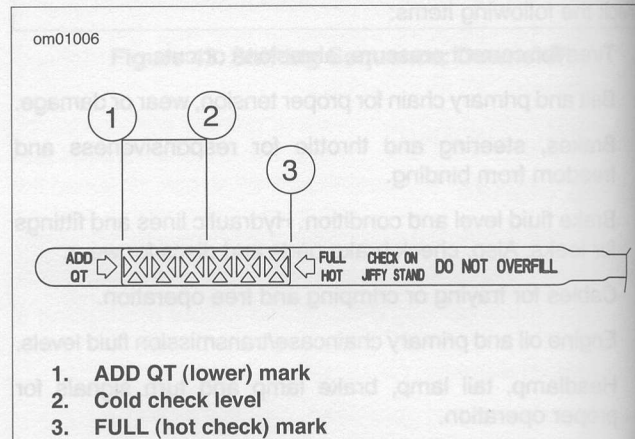
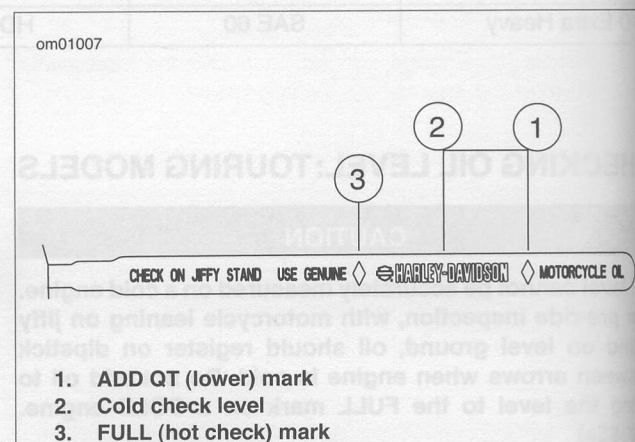

Figure 45. Engine Oil Dipstick
Figure 46. Engine Oil Dipstick (Sidecar Use)
3. See Figure 45. Remove the dipstick and verify the level of the oil. The correct oil level should register between the two marks on the dipstick. If sidecar is attached, check oil level using the opposite side of dipstick as shown in Figure 46.
4. See Figure 45. Remove the dipstick and note the level of the oil. If sidecar is attached, check oil level using the opposite side of dipstick as shown in Figure 46. Add only enough oil to bring the level to the FULL mark on the dipstick. Do not overfill.
- The engine oil dipstick has different markings on its two sides. Figure 45 shows the engine oil level when the motorcycle is on its jiffy stand. Figure 46 shows the engine oil level with a sidecar attached (motorcycle upright).
- For cold check level, do not exceed the midpoint (2) when filling with oil.